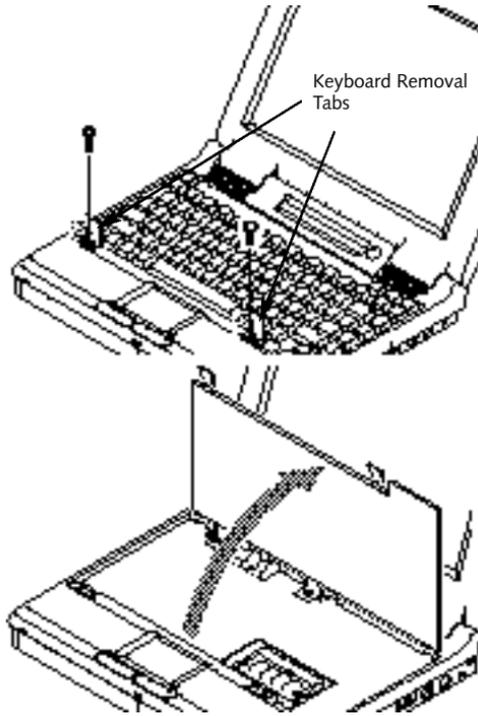

Figure 4-1 Raising the Keyboard
2. Lift the front of the two tabs at the bottom of the keyboard and tilt them back about 90 degrees. (See *Figure 4-1*.)